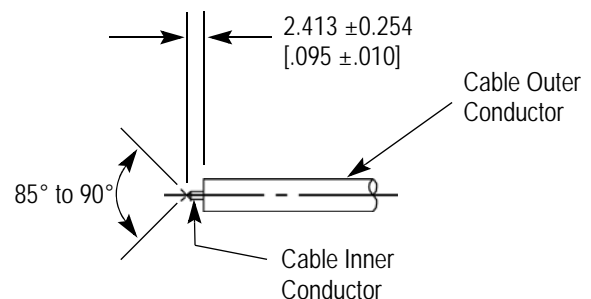

Figure 4
### 2.2. Shaping the Inner Conductor of the Cable (Figure 4)
1. Trim the inner conductor to the length shown in Figure 4.